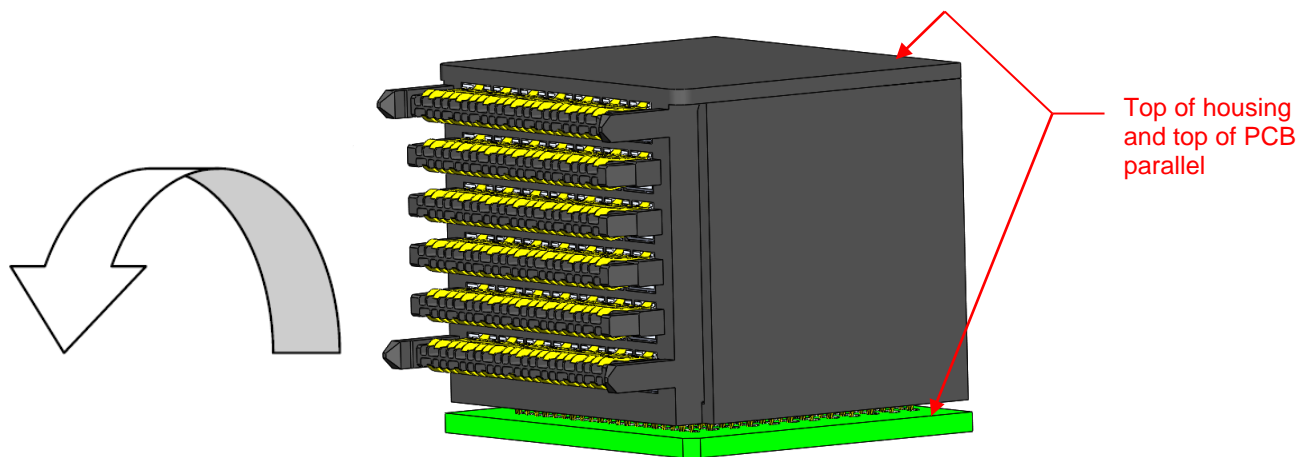

Figure 29: Connector Rotated Parallel to the Top of PCB and EONs Aligned
- Once the last row of EON tips have been inserted, rotate the connector towards the front of board to insert the rest of the EON tips into their corresponding vias. The top surface of the connector should be parallel with the top surface of PCB after all of the tips have been properly inserted. Refer to figure 29.